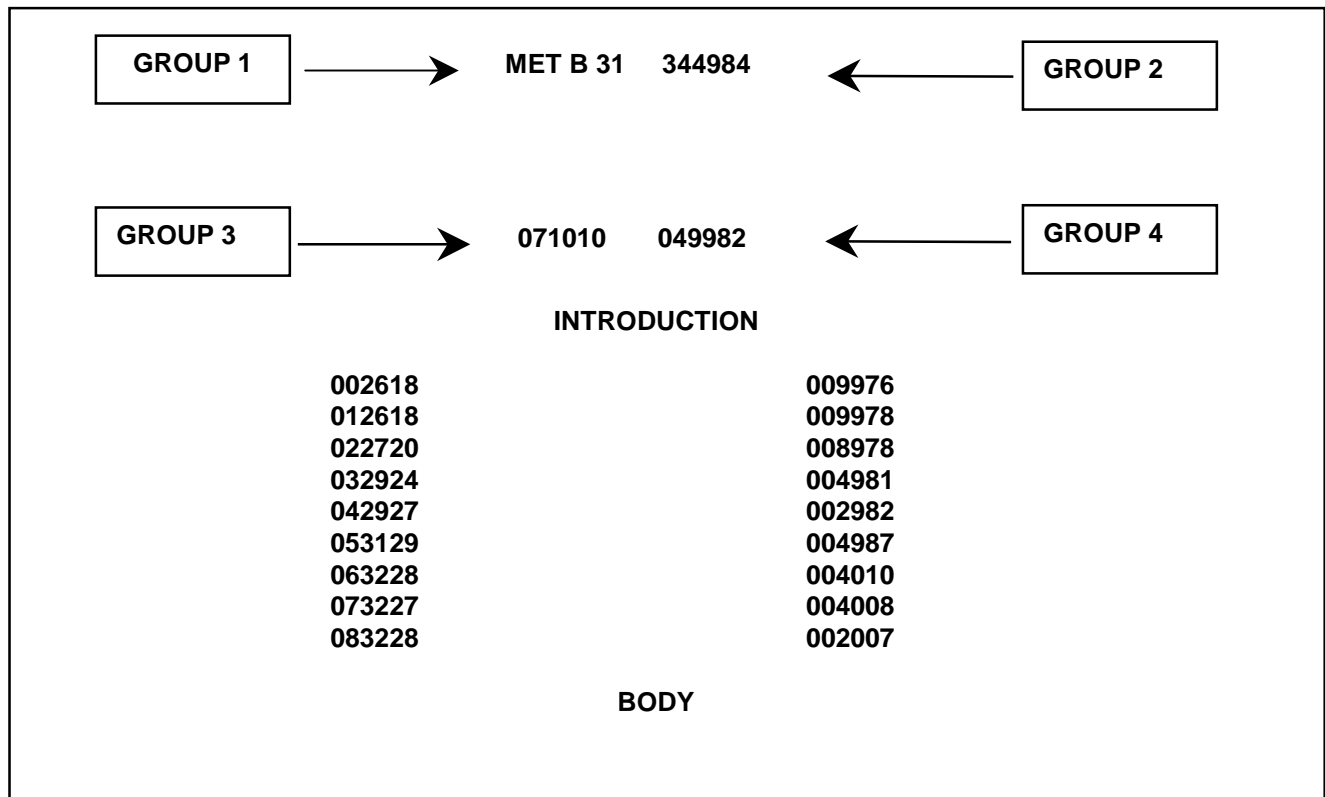
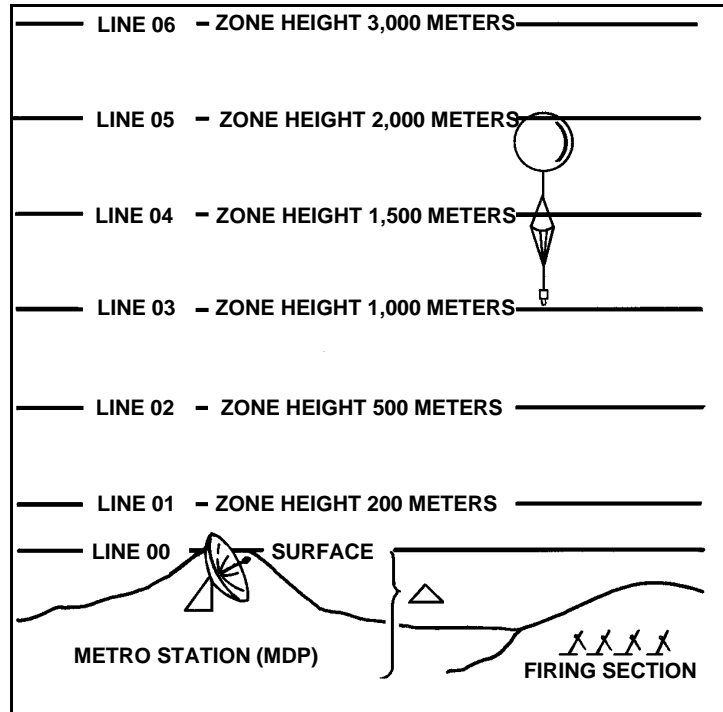

Figure 4-15. Six-character groups.
Figure 4-17. Line number and zone height relative to meteorological data plane.
c. **Receipt of MET Message.** The MET message is broadcast in six-character groups. These groups are shown in Figure 4-15 for ease of explanation. Examples of completed DA Form 3675 and DA Form 3677 are given in Figures 4-16A and 4-16B, using the same six-character groups to show how they are entered into the form. The message has two parts: the *introduction* and the *body*.
(2) *Body.* The next group of six-character blocks is the body, containing the MET data listed by line number. The relationship of the line numbers and zone heights to the meteorological datum plane is shown in Figure 4-17. The remaining 16 lines of the body are the same form and contain the same information. The use of all 16 lines is not applicable for mortars, because of the height that the mortars can fire. Only the first seven lines (00-006) need be recorded (Figure 4-18). The character groups that compose the body shown in Figure 4-15 are interpreted as follows: